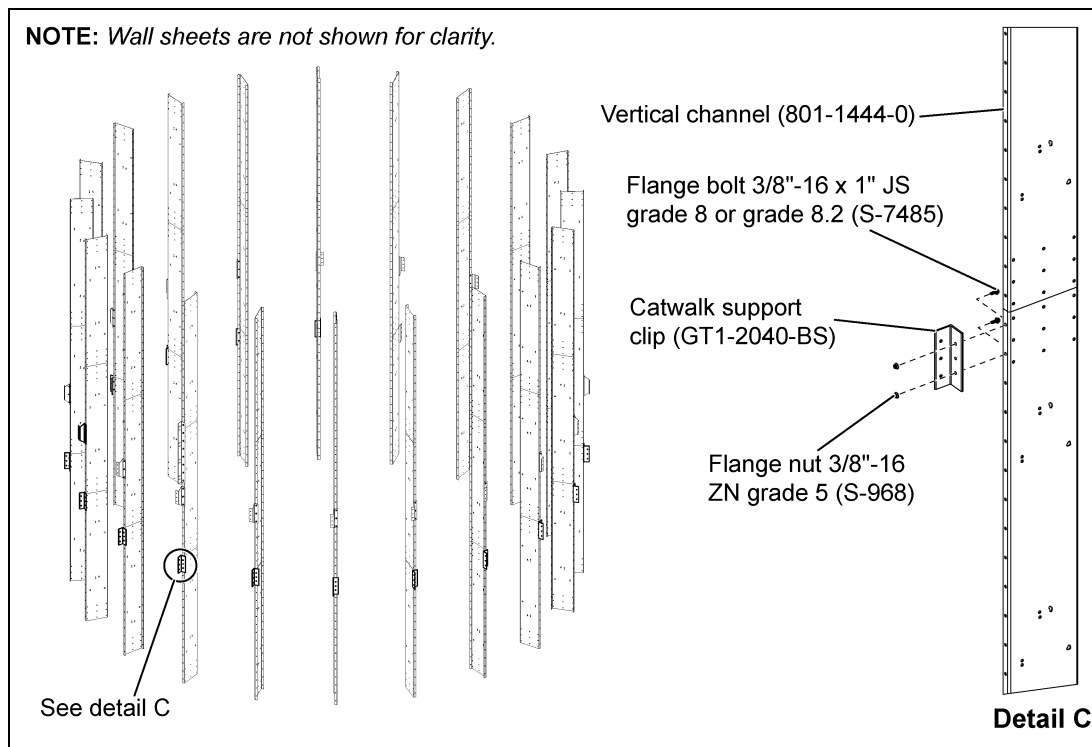

Figure 4E
1. Install catwalk support clips (GT1-2040-BS) to all vertical channels (801-1444-0). Support clip can be installed on each vertical channel as the wall sheets are installed using 3/8"-16 x 1" JS grade 8 or grade 8.2 bolts (S-7485) and 3/8"-16 ZN grade 5 nuts (S-968). (See Figure 4E.)